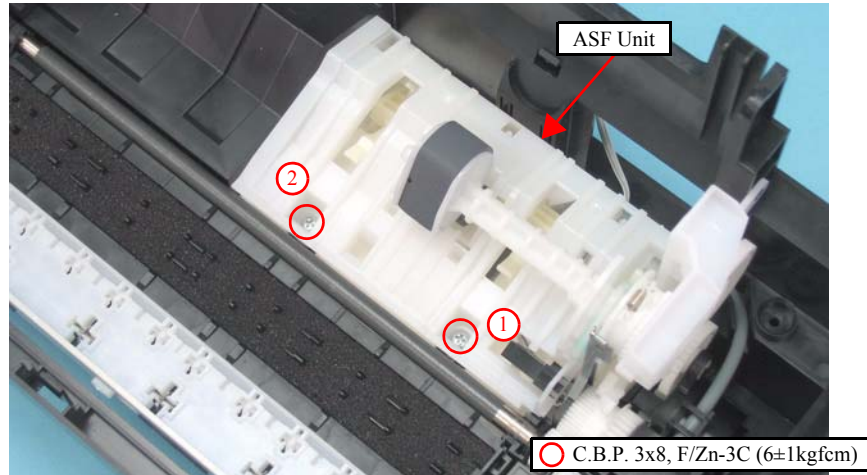

Figure 4-89. Removing the ASF Unit (1)
- Tighten the screws in the order given in Figure 4-89.